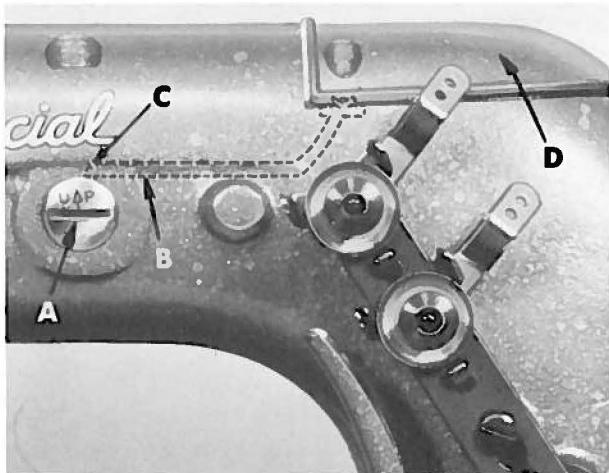
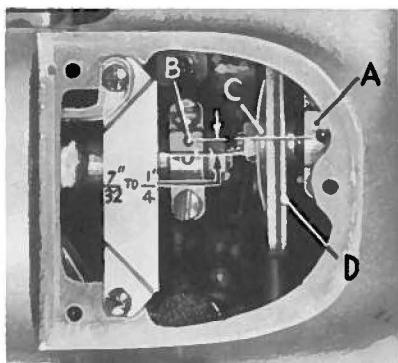

Fig. 1
Fig. 2
Observe location of needle lever stud (A, Fig. 1). The head of the needle lever stud is marked with an arrow and the word "UP". These studs are set correctly when arrow points vertically up. Also check the position of the needle lever bearing oiler (B) inside the arm casting, which lubricates the needle lever stud. Make sure it is tilted downwardly and that its delivery end (C) contacts the inside wall of the bed casting at the back, just above the notch of the needle lever shaft stop collar.
Before making any adjustment, remove top crank chamber cover (D, Fig. 1) and check to see that both ends of spacing washer (C, Fig. 2) are seated in the slot of rocker shaft lever (D). If the spacing washer is seated properly, this will locate the centerline of the upper needle feed connecting rod ball joint (A, Fig. 2),  $7/32$  to  $1/4$  inch in back of the centerline of the needle lever connecting rod assembly (B).
NOTE: When spacing washer (C, Fig. 2) is properly seated, this will prevent the upper needle feed connecting rod ball joint from moving and also set it properly.